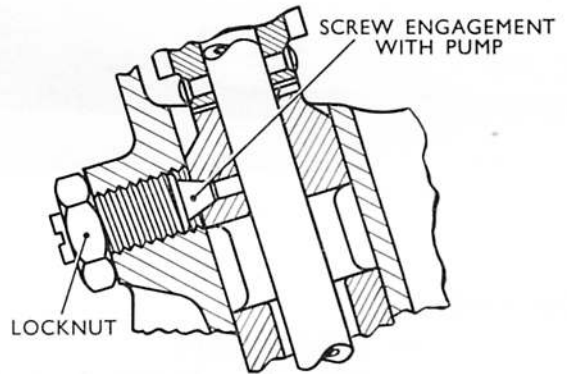

Fig. A.28. Sectioned view showing oil pump attachment
3. When the pump is assembled to the crankcase, be sure the retaining screw, threads smeared with jointing compound, is engaged with the chamfered hole in the pump body (Fig. A.28). Do not overtighten the screw; a quarter of a turn beyond finger tight is sufficient. Hold the screw in this position and tighten the locknut.